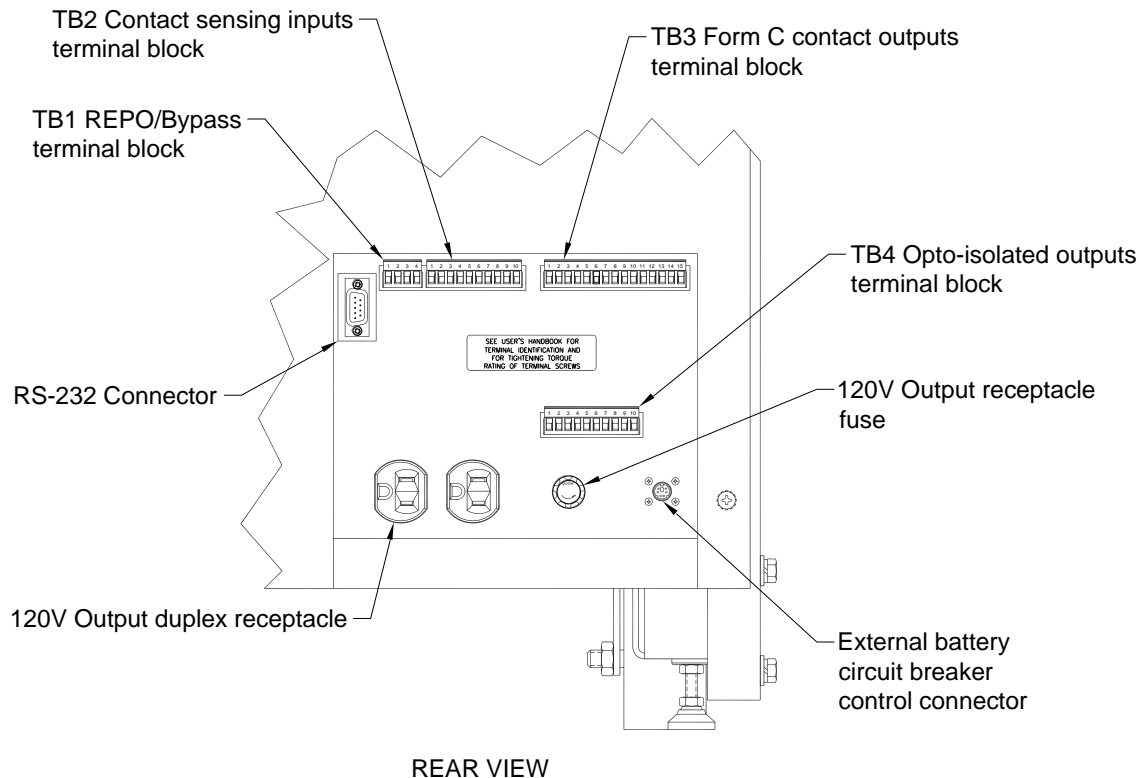

Figure 14 - UPS Communication Options and Control Terminals
5. With the supplied 10 foot long 6 pin Mini-DIN cable (**Staco part number 273-0413**), connect from the left (input) circuit breaker control connector on the rear of the cabinet to the similar connector on the rear of the UPS. See figure 14.
Figure 14 shows the location of the communication options and terminals on the UPS.